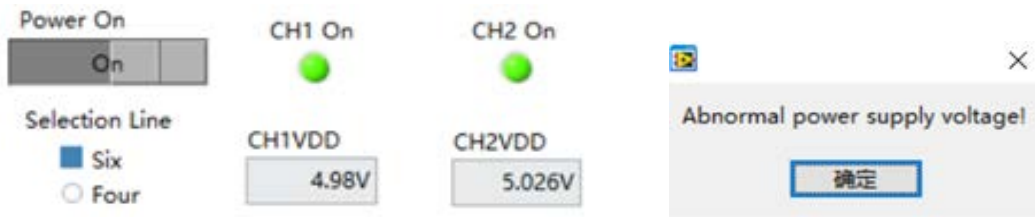

Figure 5.3.6 Indicator light steady on
- Click the button below "Power on" to power on the chip. When the power-on operation is successful, the power-on indicator light will stay green (Figure 5.3.6). If the power-on operation fails, a pop-up window will appear on the interface indicating a power-on exception (Figure 5.3.7). In this case, it is necessary to check the chip and hardware connections and then attempt the power-on operation again.